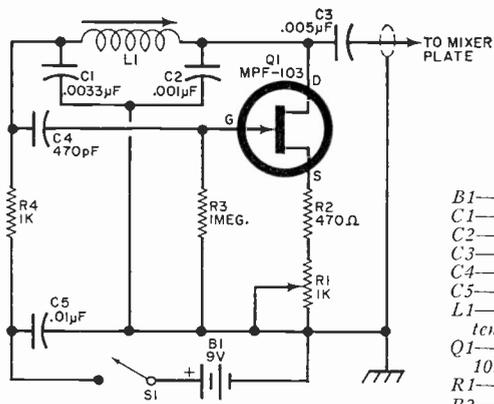

Fig. 1. High-Q 455-kHz tuned circuit (C1, C2 and L1) helps narrow passband of receiver, while R1 in source of Q1 provides means for controlling regeneration.
**About the Circuit.** The FET-QM incorporates a high-Q 455-kHz tuned circuit ( $L1$ ,  $C1$ , and  $C2$  in Fig. 1). Additionally, amplifier stage  $Q1$  provides a facility for controlling regeneration.
box to accept a rubber grommet, pass one end of the coax through the grommet, and solder the coax into the circuit as shown in Fig. 1.
The load resistors associated with switch *S1A* (*R1* through *R11* in Fig. 1) should be 2-watt, non-inductive units whose tolerances are chosen for the amount of reading accuracy desired, keeping in mind that the ultimate accuracy depends on the meter movement itself. The ohmic values of the resistors shown in the Parts List were selected to cover most loading cases.
Since the meter now indicates peak, rather than r.m.s., power, it cannot be expected to give exact results for inputs that are not sine waves. However, this method is used in most VTVM's and has proved to be quite satisfactory in practice, particularly at very high frequencies. Once  $R_{23}$  has been selected, wire the test set in accordance with Fig. 1.